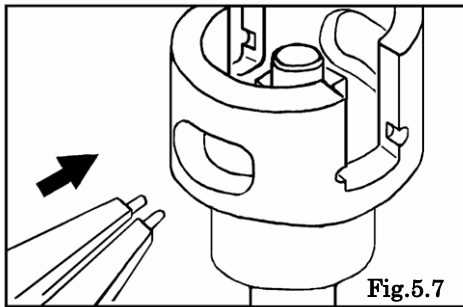

Fig.5.7
- Use the snap ring pleyer to remove the interlocking bush from the spool while opening and pushing the groove of the interlocking bush. [Fig.5.7 and 5.8]